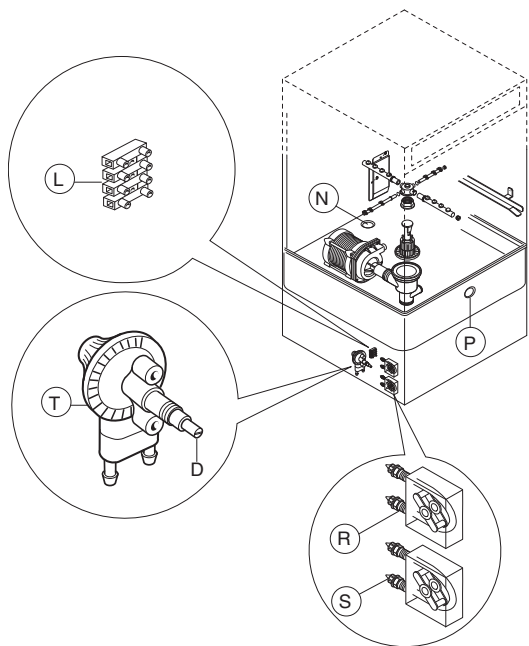

Figure 13
1. Dishwasher with incorporated detergent dispenser pump (Figure 13).
2. Dishwashers with incorporated peristaltic rinse-aid dispenser pump (Figure 13).
3. Dishwashers with incorporated rinse-aid diaphragm dispenser pump (Figure 13).
Connections for automatic detergent dispenser (Figure 13)
Connect to the terminal board "L" (Figure 13) to terminals 1 and 2 for dispensing during the rinse cycle or to terminals 3 and 4 for dispensing during the wash cycle.
In the appliances with pressure boiler, the diaphragm dispenser pump may be manually activated by pressing screw "D" (Figure 13).
To change the dispensed amount, turn  on screw "D" accordingly (Figure 13).